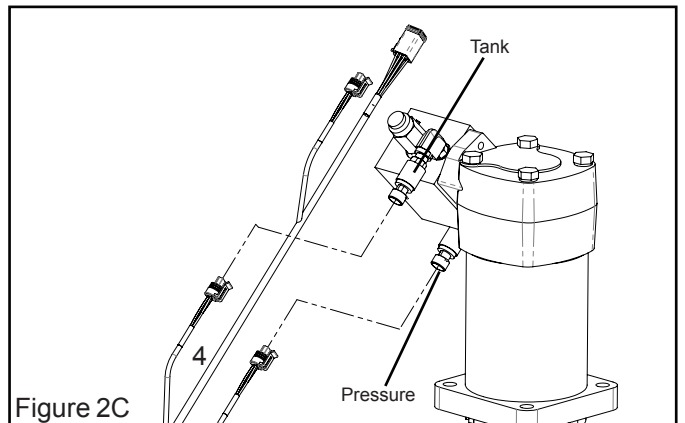

Figure 2C
3 Secure wire harness (4) to the transducers (6). Clip harness end marked **“Pressure”** to the pressure side transducer and the harness end labeled **“Tank”** to the Tank side transducer. See figure 2C.